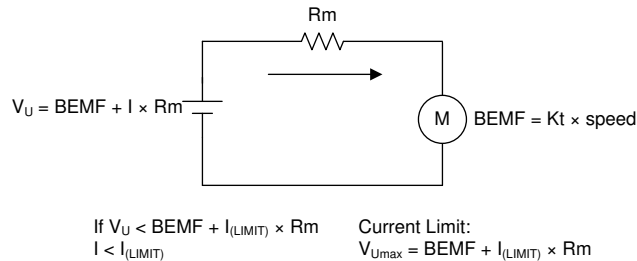

Figure 7-12. Current Limit
The current-limit function provides active protection for preventing damage as a result of high current. The soft current-limit does not use direct-current measurement for protection, but rather, uses the measured motor resistance (R_m) and motor velocity constant (K_t) to limit the voltage applied to the phase (U) such that the current does not exceed the limit value ($I_{(LIMIT)}$). The soft current-limit scheme is shown in Figure 7-12 based on the calculation in Equation 4.